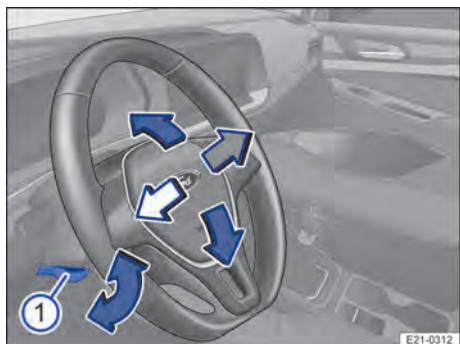

Fig. 58 Below the steering wheel in the steering column trim: lever for adjustment of the steering wheel position.
1. Push the lever down → Fig. 58 ①.
3. Push the lever → Fig. 58 ① up firmly until it is flush with the steering column trim → ⚠.